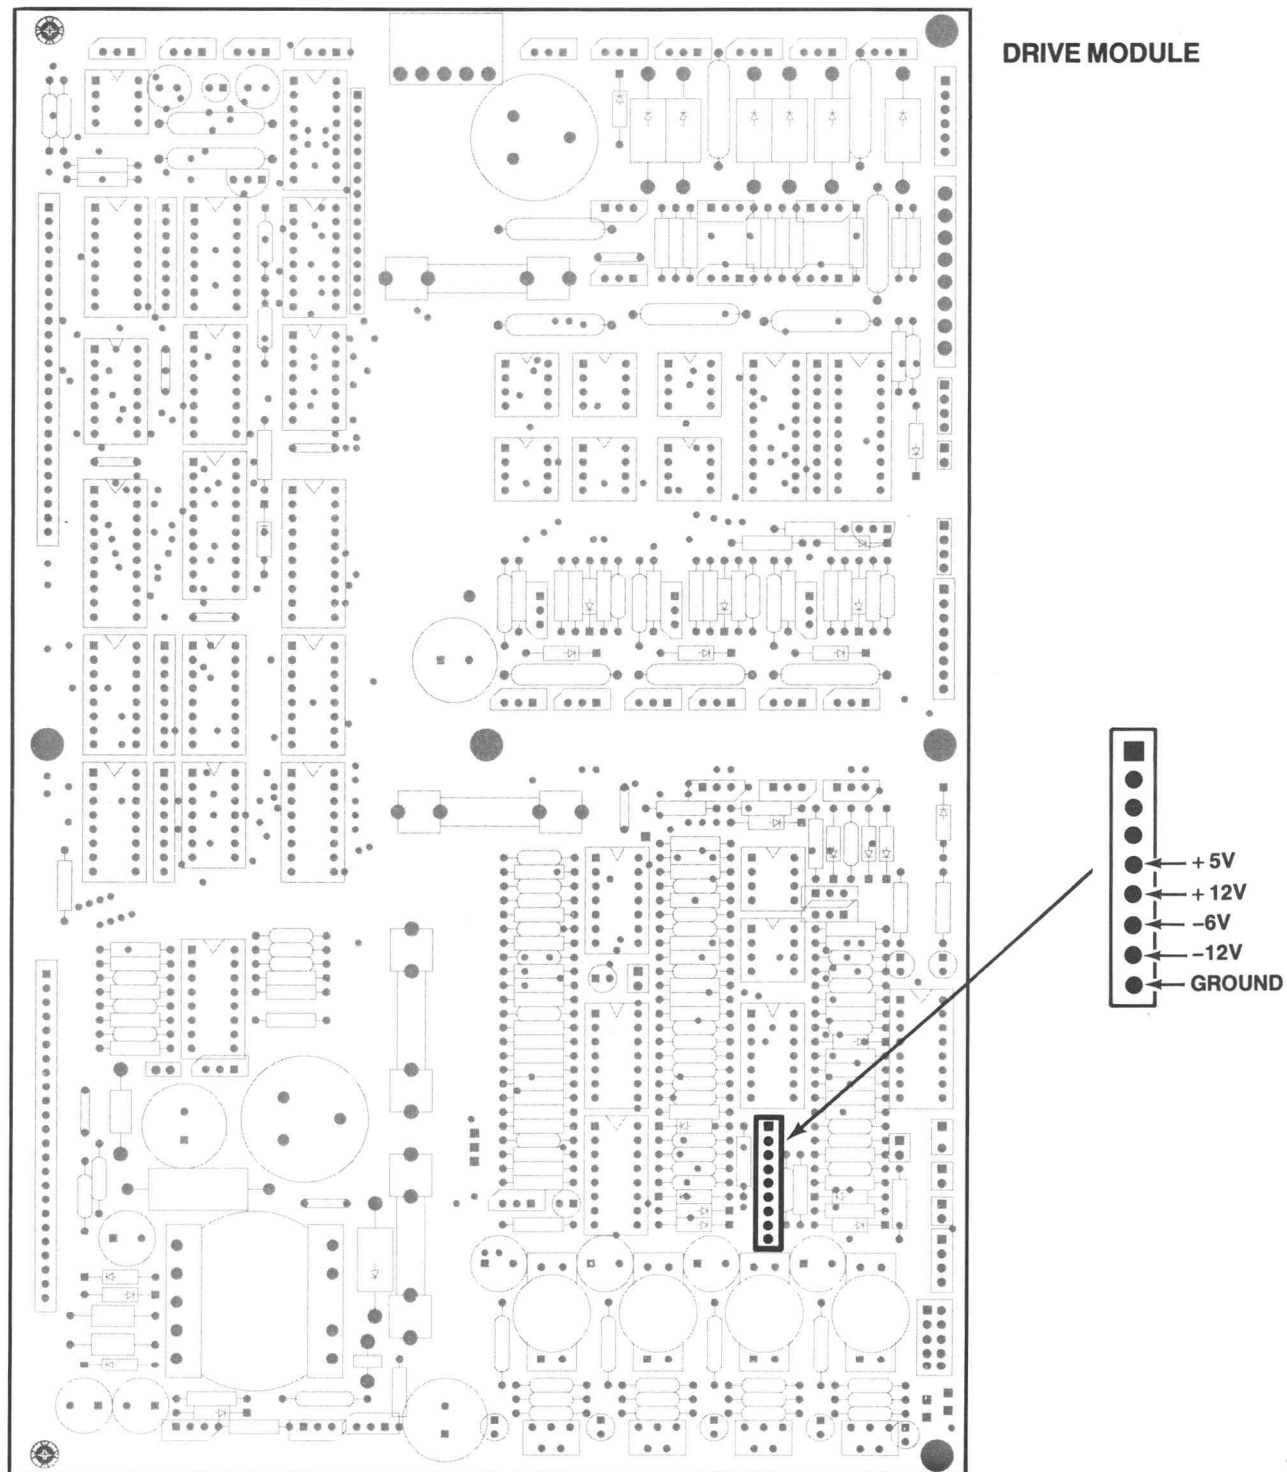

Figure 2-5. Power Supply Test Points on the Drive Module.
3. Refer to Figure 2-5 and check the dc supplies at J785.